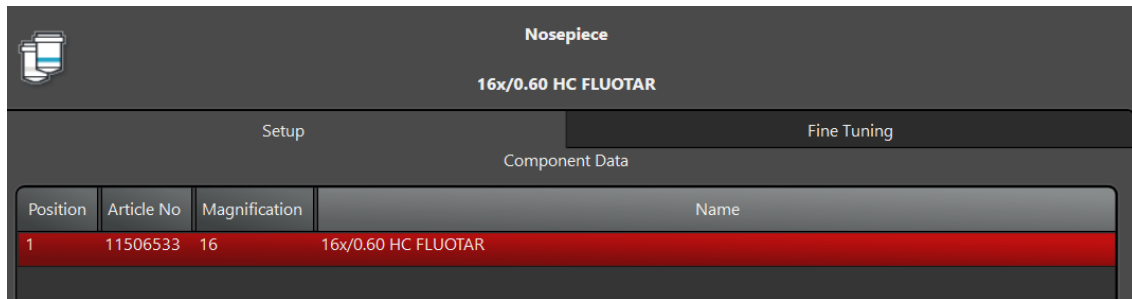

Figure 8
- Double click on the objective to select it for use. If the objective has been properly selected, it will appear in the window at the top of the screen. See Figure: 8